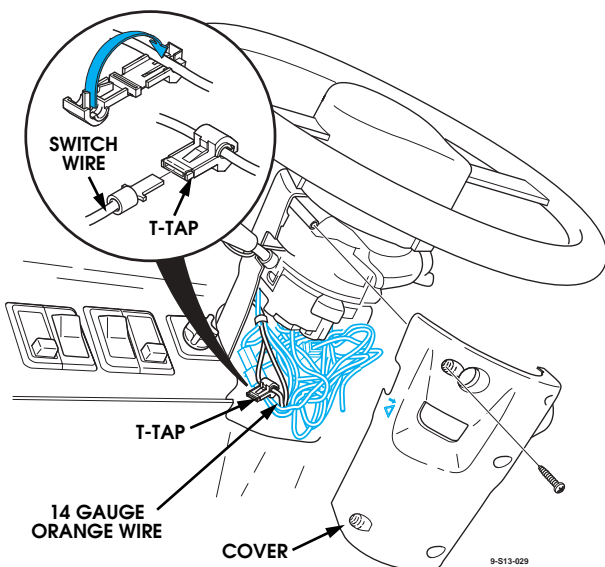
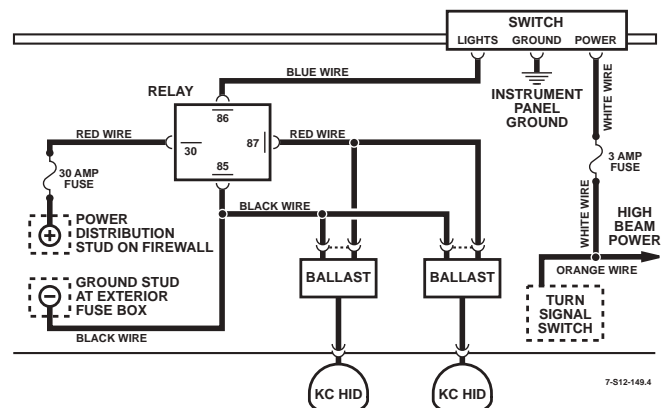

Figure 13-68: Switch Power Connection
Figure 13-70: Wiring Schematic
4. The red wire (Figure 13-70) containing a 30-amp in-line fuse, supplies power to the relay on terminal 30 and connects to the power distribution stud (+) on the firewall. The blue wire connects terminal 86 of the relay to either of the outside terminals on the switch. The red wire connects terminal 87 of the relay to the ballasts. The black wire connects terminal 85 of the relay and the ballasts to the ground distribution stud (-) next to the exterior fuse box. The center (ground) terminal of the switch connects to the instrument panel ground point under the left side of the dash. The white wire connects the remaining outside terminal of the switch to the orange high beam power wire near the turn signal switch (See Figure 13-68).